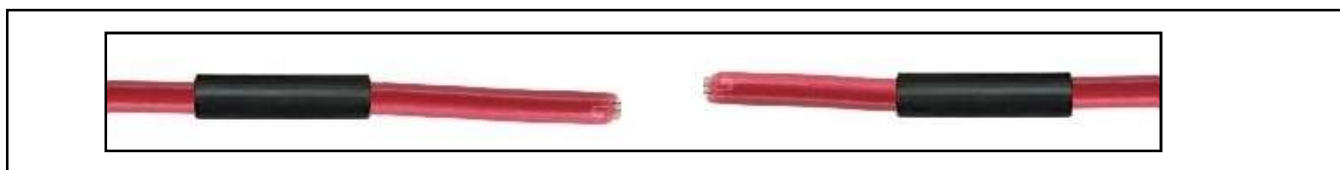

Figure 12 - Insert Heat Shrink Tubing
- 2.1.4. On each harness wires insert 2 in. of heat shrink tubing (N82227-03) (see Figure 12).